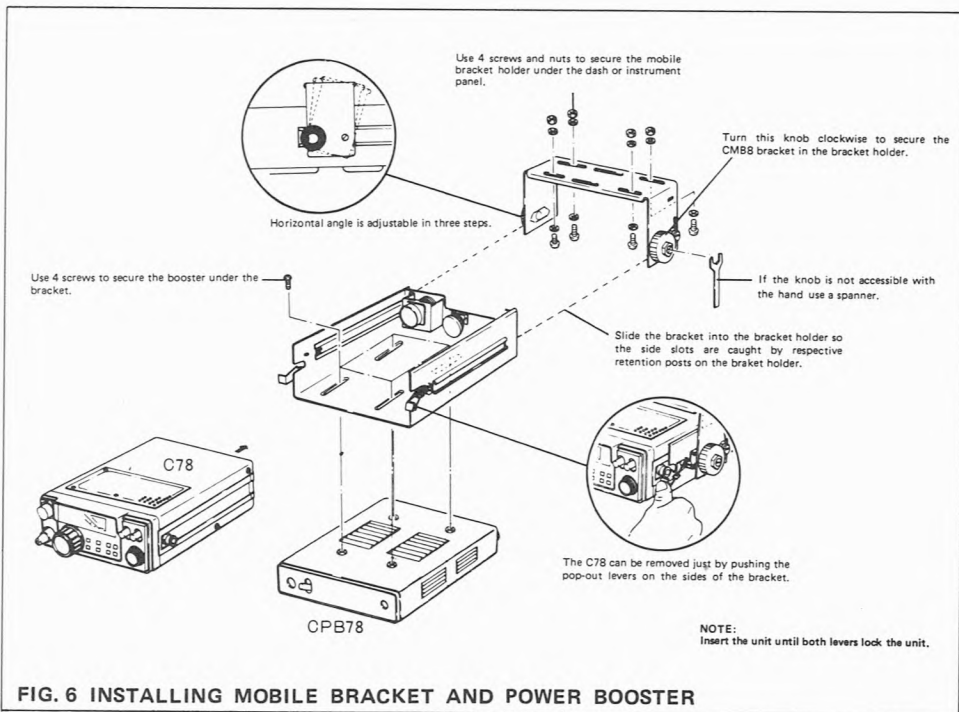

FIG. 6 INSTALLING MOBILE BRACKET AND POWER BOOSTER
1. For mobile operation, obtain the optional mobile bracket CMB8 from your dealer and mount it under the dash of your car. The unit can be popped in and out with the pop-out gear on the bracket (see Fig. 6).
2. Combining the mobile bracket (CMB8) with the optional power booster CPB78, your transceiver is powered to 10 watts just by sliding the unit into the mobile bracket (see Fig. 6).